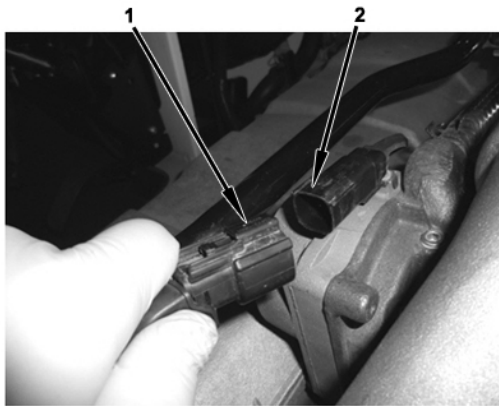

Figure 44 EGR Valve Engine Harness Connector
21. Connect engine harness (1) to EGR valve engine harness connector (2) (Figure 44).